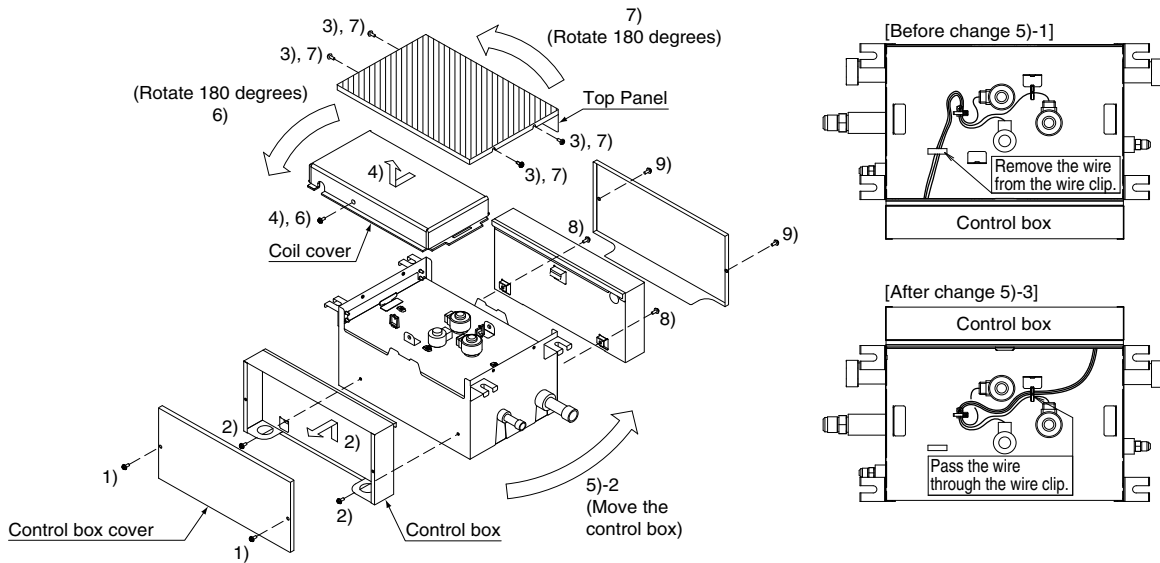

Fig. 4
(Refer to **Fig. 4**)
- The BS unit has a top and a bottom, so install it so that the diagonal lines in the Fig. 4 are where the top is. (Failing to do so may prevent the unit from operating properly and increase the volume of the operating noise.)